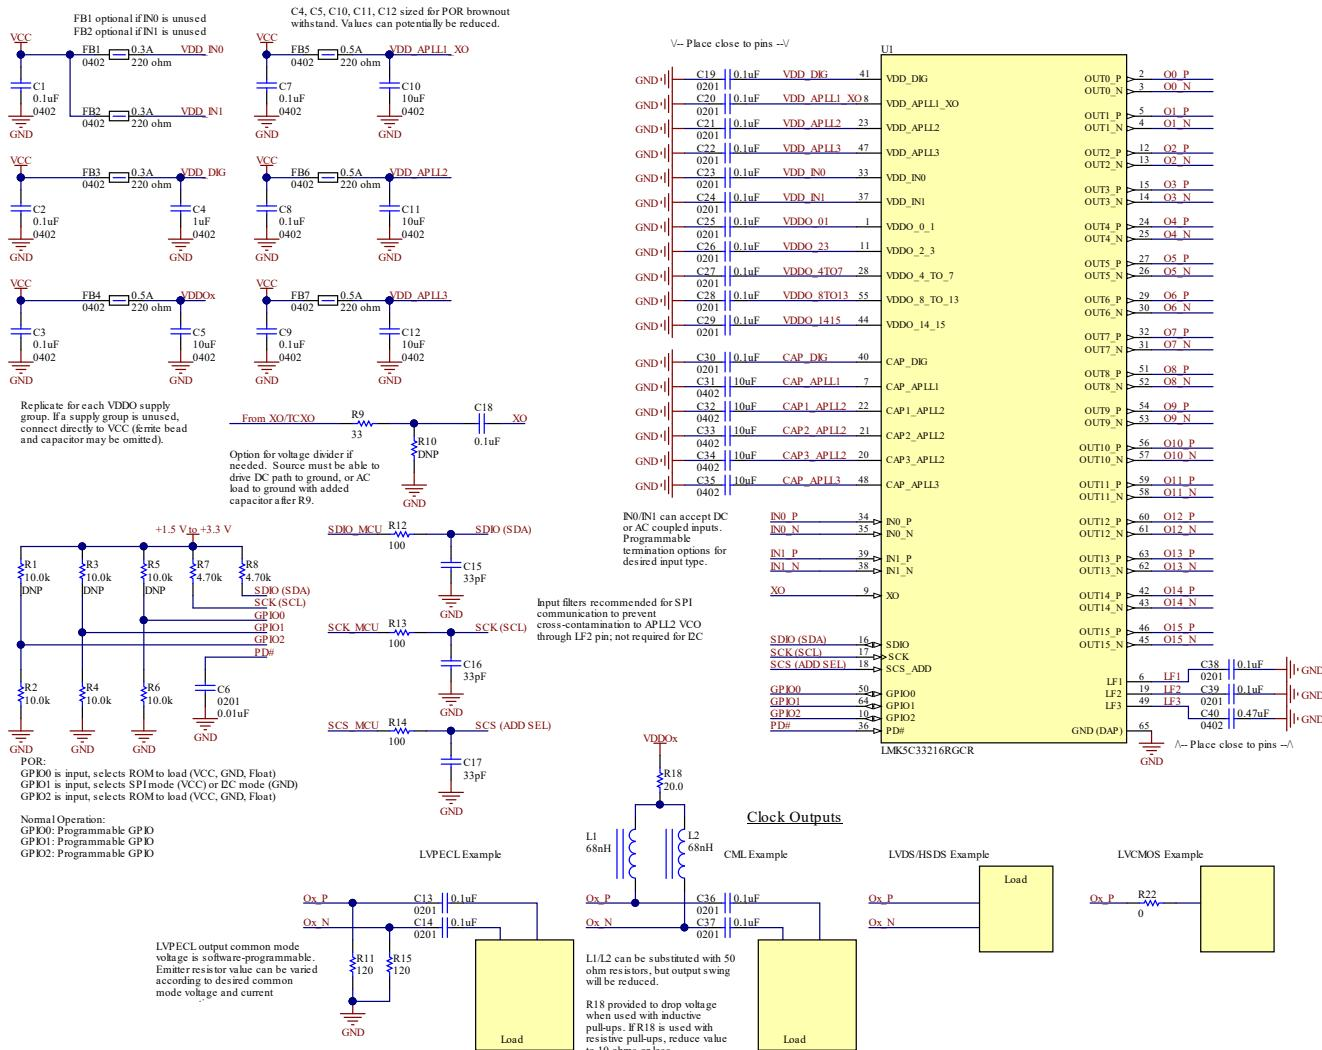

图 10-3. Reference Schematic Example
图 10-3 shows a reference schematic to help implement the LMK5C33216 and its peripheral circuitry. Power filtering examples are given for the core supply pins and independent output supply pins. Single-ended LVCMOS, LVDS, HSDS, LVPECL, and CML open collector clock interfacing examples are shown for the clock input and output pins. An external CMOS oscillator drives an AC-coupled voltage divider network as an example to interface the 3.3-V LVCMOS output to meet the input voltage swing specified for the XO input. The XO pin of the LMK5C33216 can accept 3.3V LVCMOS input. The required external capacitors are placed close to the LMK5C33216 and are shown with the suggested values. External pullup and pulldown resistor options at the logic I/O pins set the default input states. The I²C or SPI pins and other logic I/O pins can be connected to a host device (not shown) to program and control the LMK5C33216 and monitor its status.
- Reference inputs: Follow the LVCMS or differential clock input interface examples in 图 10-3 or 节 9.3.3.
- Clock output Interfacing: Follow the single-ended or differential clock output interface examples in 图 10-3 or 节 9.3.16.
- Power all the VDD pins with proper supply decoupling and bypassing connect as shown in 图 10-3.